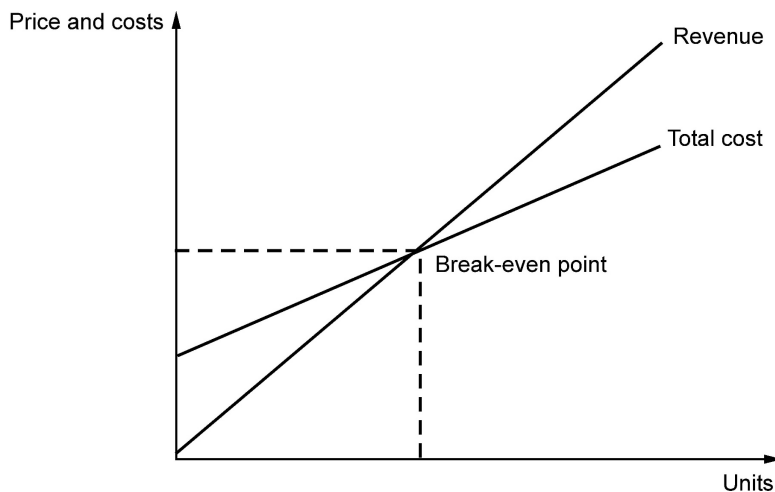

Fig. 2.6.1 Break even point
- The Break-Even Point (BEP) is the level of output/production at which costs and revenues are equally divided. It is the point at which the unit's turnover just covers its fixed overheads and it begins to profit. The details of BEP is as shown in the Fig. 2.6.1.